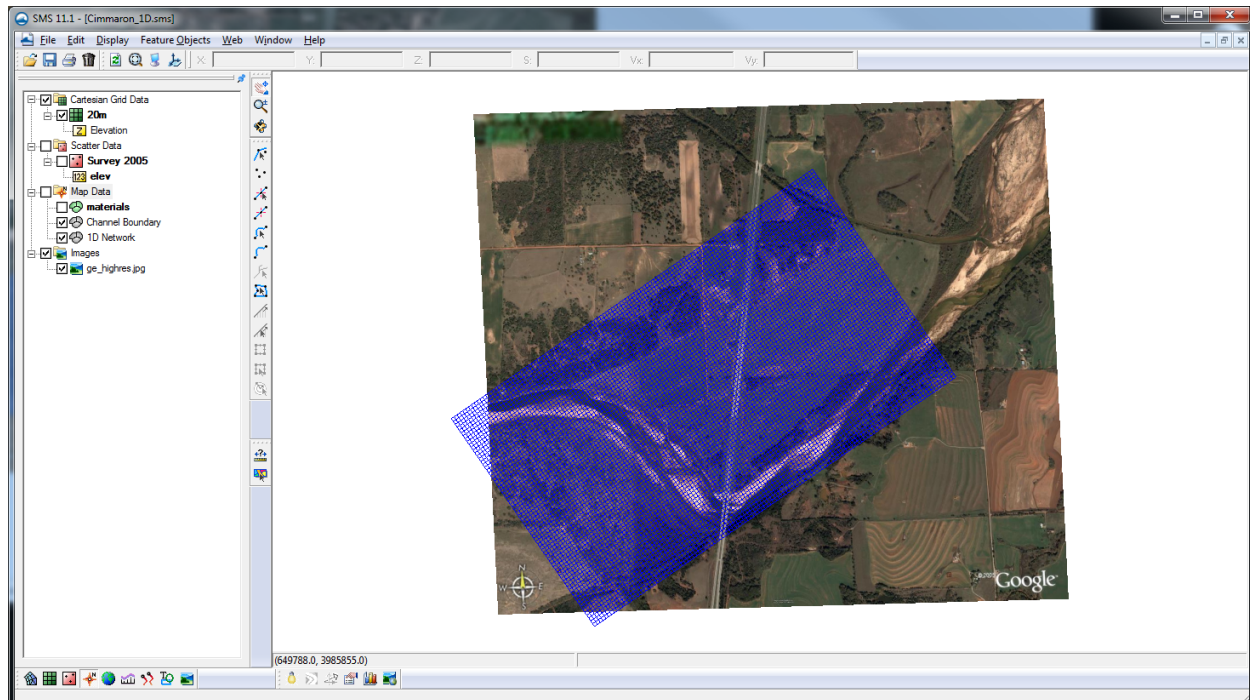

Figure 1 View of Map and Image Data
1. Click *File / Open* and find the file *Cimmaron_1D.sms*. This will load an SMS project with a background image, the elevation data in a TIN, the 20m grid created in the 2D tutorial, and three map coverages. The coverages include the material zones defined in an area properties coverage, a pre-digitized boundary of the channel or 1D area, and separate coverage with defined locations for cross sections. SMS should look like Figure 1.